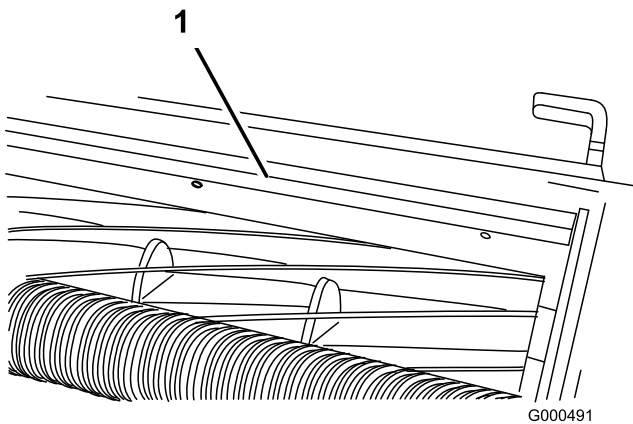

Figure 60
1. Loosen screws securing top bar (Figure 60) to cutting unit.